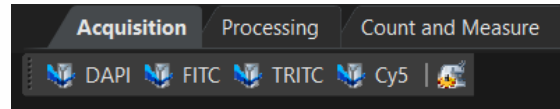

Figure 13: Several 'Observation Methods' visible along the toolbar
6. It is possible to set up several 'Observation Methods' as required, which can be selected from the toolbar (Figure 13), or the 'Microscope Control' window (Figure 7).